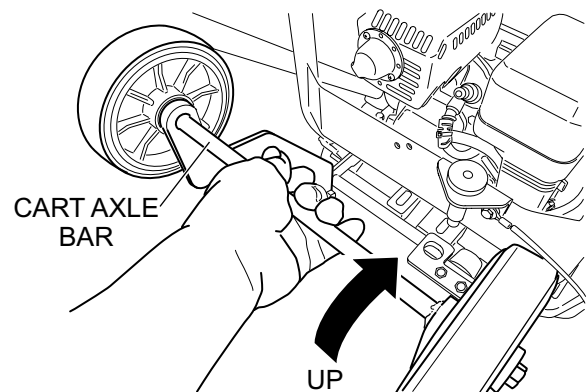

Figure 16. Positioning Axle Cart Bar (Stowed)
4. With your hand, grab hold of the cart axle bar (Figure 16) and pull upwards. Continue pulling cart axle upwards until cart is secured to guard hook by the automatic locking pin.